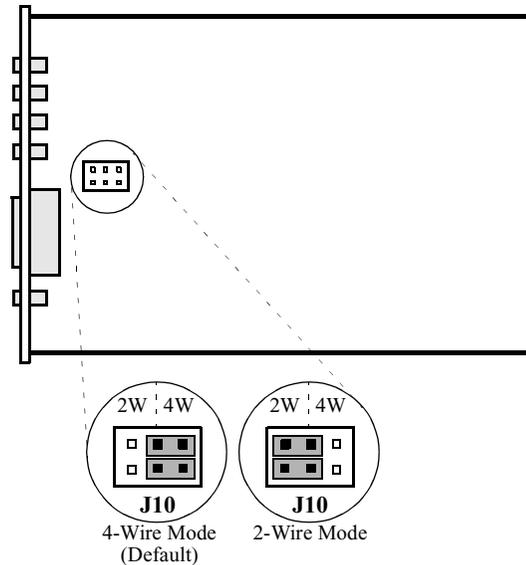

Figure 2-4. 4-Wire and 2-Wire Modem Strapping Positions
- 2) Remove the blue jumper by sliding it up, off of the pins that specify 4-wire mode (see Figure 2-4).
Figure 2-4 shows the strapping positions for 2-wire and 4-wire modes.